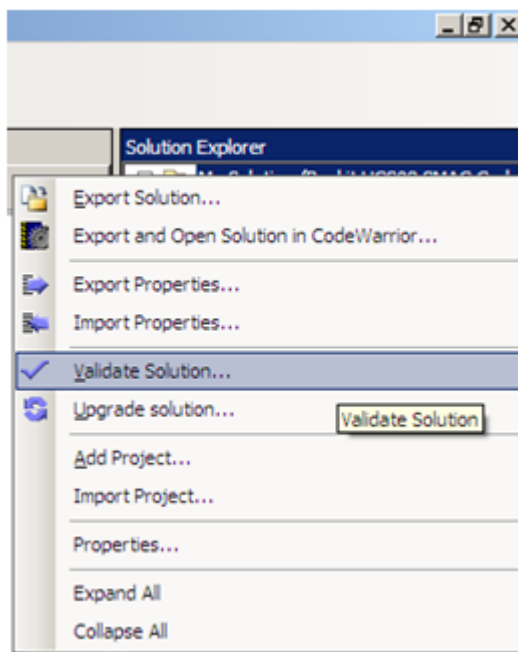

Figure 1-7. Validating a Solution
7. Validate the solution as shown in Figure 1-7.